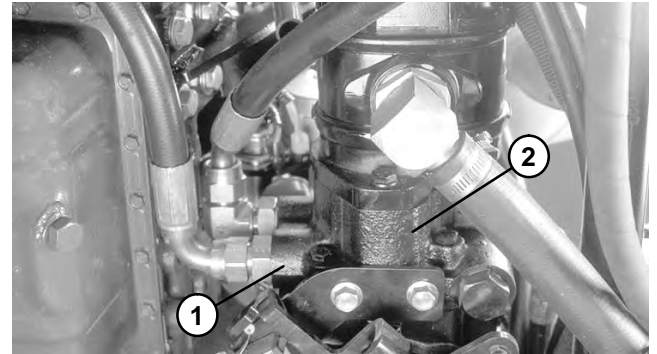

Figure 23
6. Disconnect hose from the lower hydraulic fitting on the engine side of the hydrostat (Fig. 23).